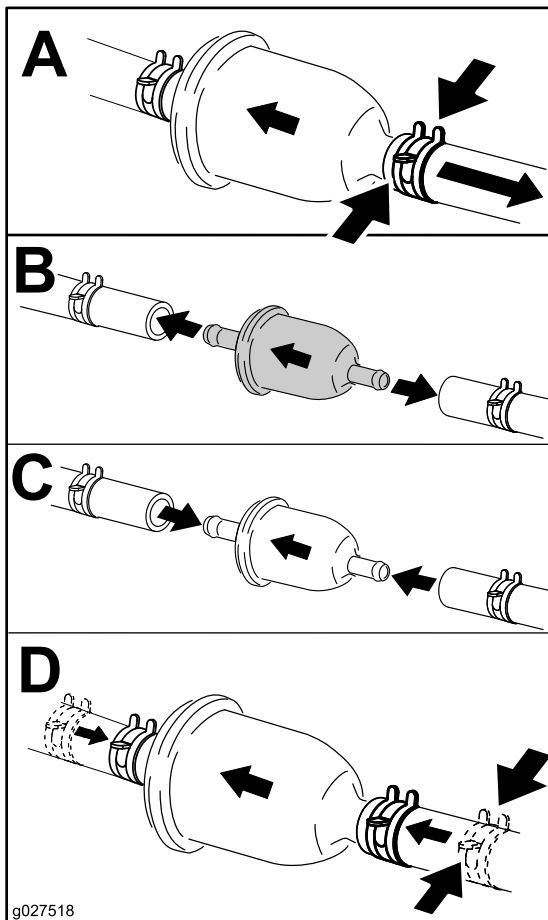

Figure 46
4. Replace the fuel filter as shown in Figure 46.